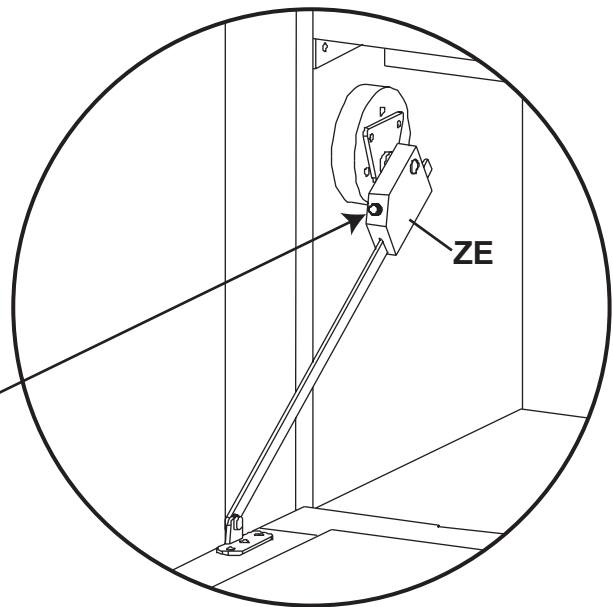

**Fig. 14**
- 14.** Place the Center Deckboard (ZM) as shown in Fig.14 and secure it with twelve #8 x 1-1/4" Black Screws (E). If you need to readjust the center feet in the future, remove the center deckboard (ZM) to improve access, rotate the glides and then attach the center deckboard.